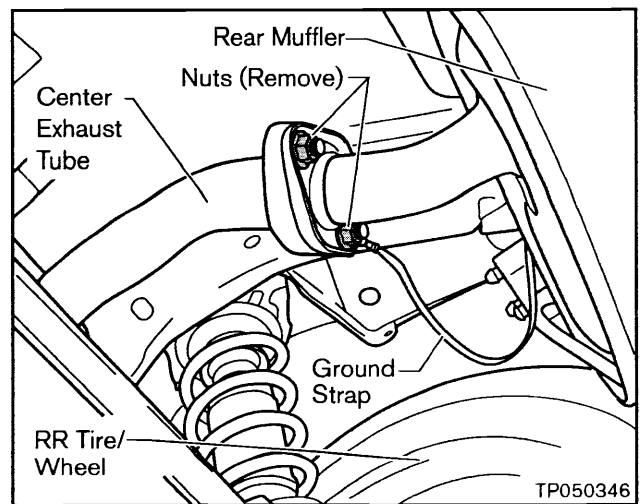

Figure 5b
- b. Remove two Nuts that secure the Center Exhaust Tube to the rear Muffler (see Figure 5b).